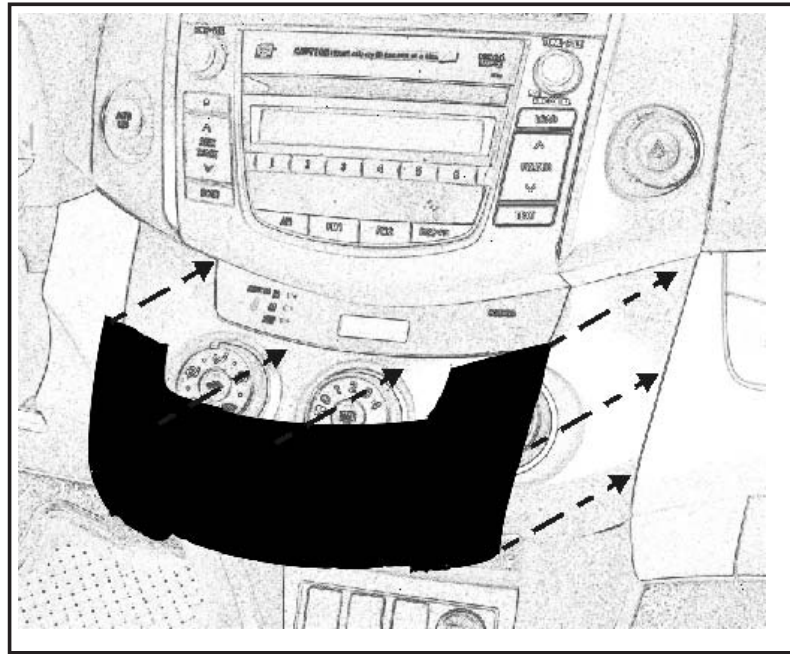

Fig. F1
- ⚠ B. Align part uniformly to edge of factory components. Edge of appliqué should be flush to edge of factory component, $\pm 1.0\text{mm}$. (Fig. F1).